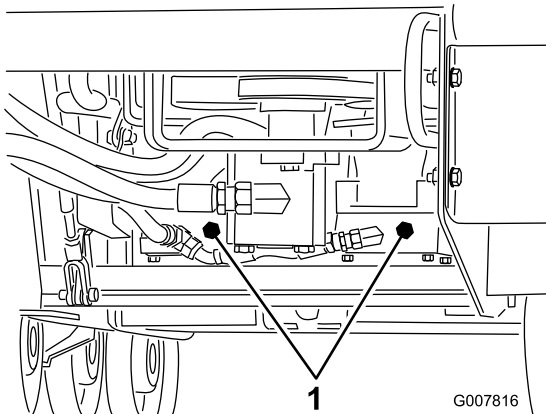

Figure 18
4. Using a wrench, turn the tow valves on the hydraulic pumps twice counter-clockwise (Figure 18).